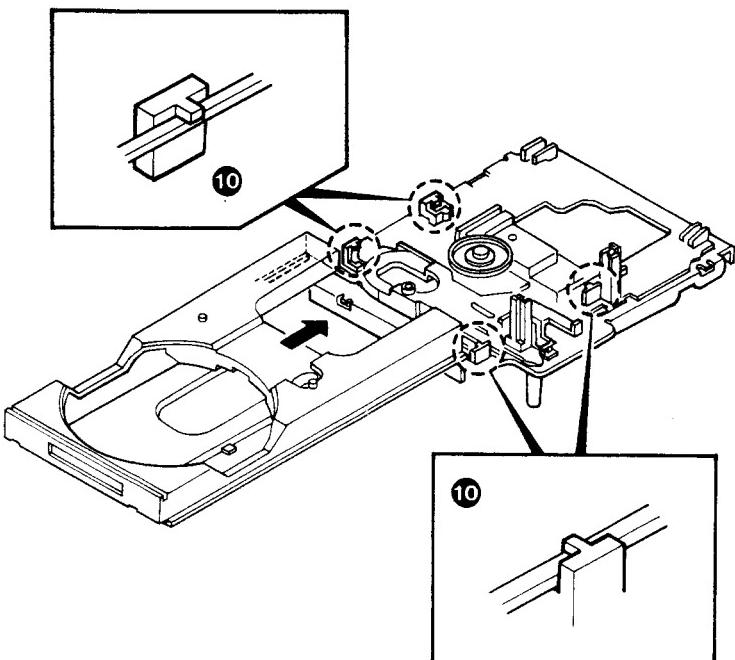

Fig. 4 Attaching the tray
1) Attach the collars firmly on both sides of the tray to the four section supporting and guiding the tray as shown in the Fig. 4.